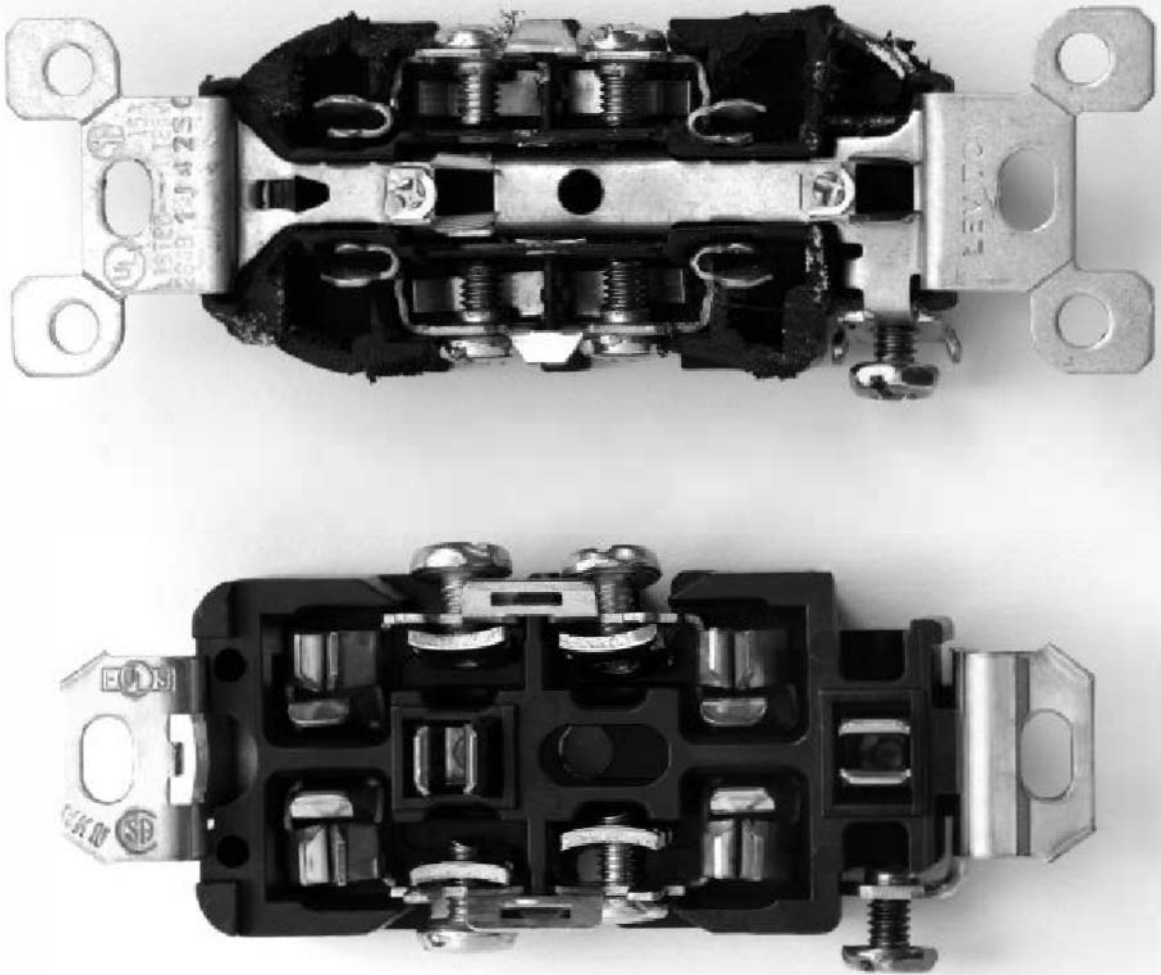

Fig.15-15 Comparison of a standard grade AC outlet (top) and one designed for audio performance (bottom) (Courtesy Shunyata Research)
- Replace the stock AC wall sockets with audio-grade models (Fig.15-15). Use contact enhancer on the blades of AC plugs.
Choose AC outlets specifically designed for audio systems. The cutaway photos in Fig.15-15 show a conventional AC outlet (top) and one designed for audio (bottom). Although the two outlets appear superficially similar, the high-end outlet has a more robust method of attaching the wire to the outlet, greater surface-contact area between the outlet and the inserted plug, thicker conductors, and better metallurgy that has been designed for maximum conduction. The high-end outlet also provides a tighter and more secure fit of the AC cord's blades in the socket. It's a good idea to ask the electrician to install two duplex outlets on each dedicated line so that you can plug multiple components into the line. Finally, every component in your audio or audio/video system must be powered from the dedicated lines.